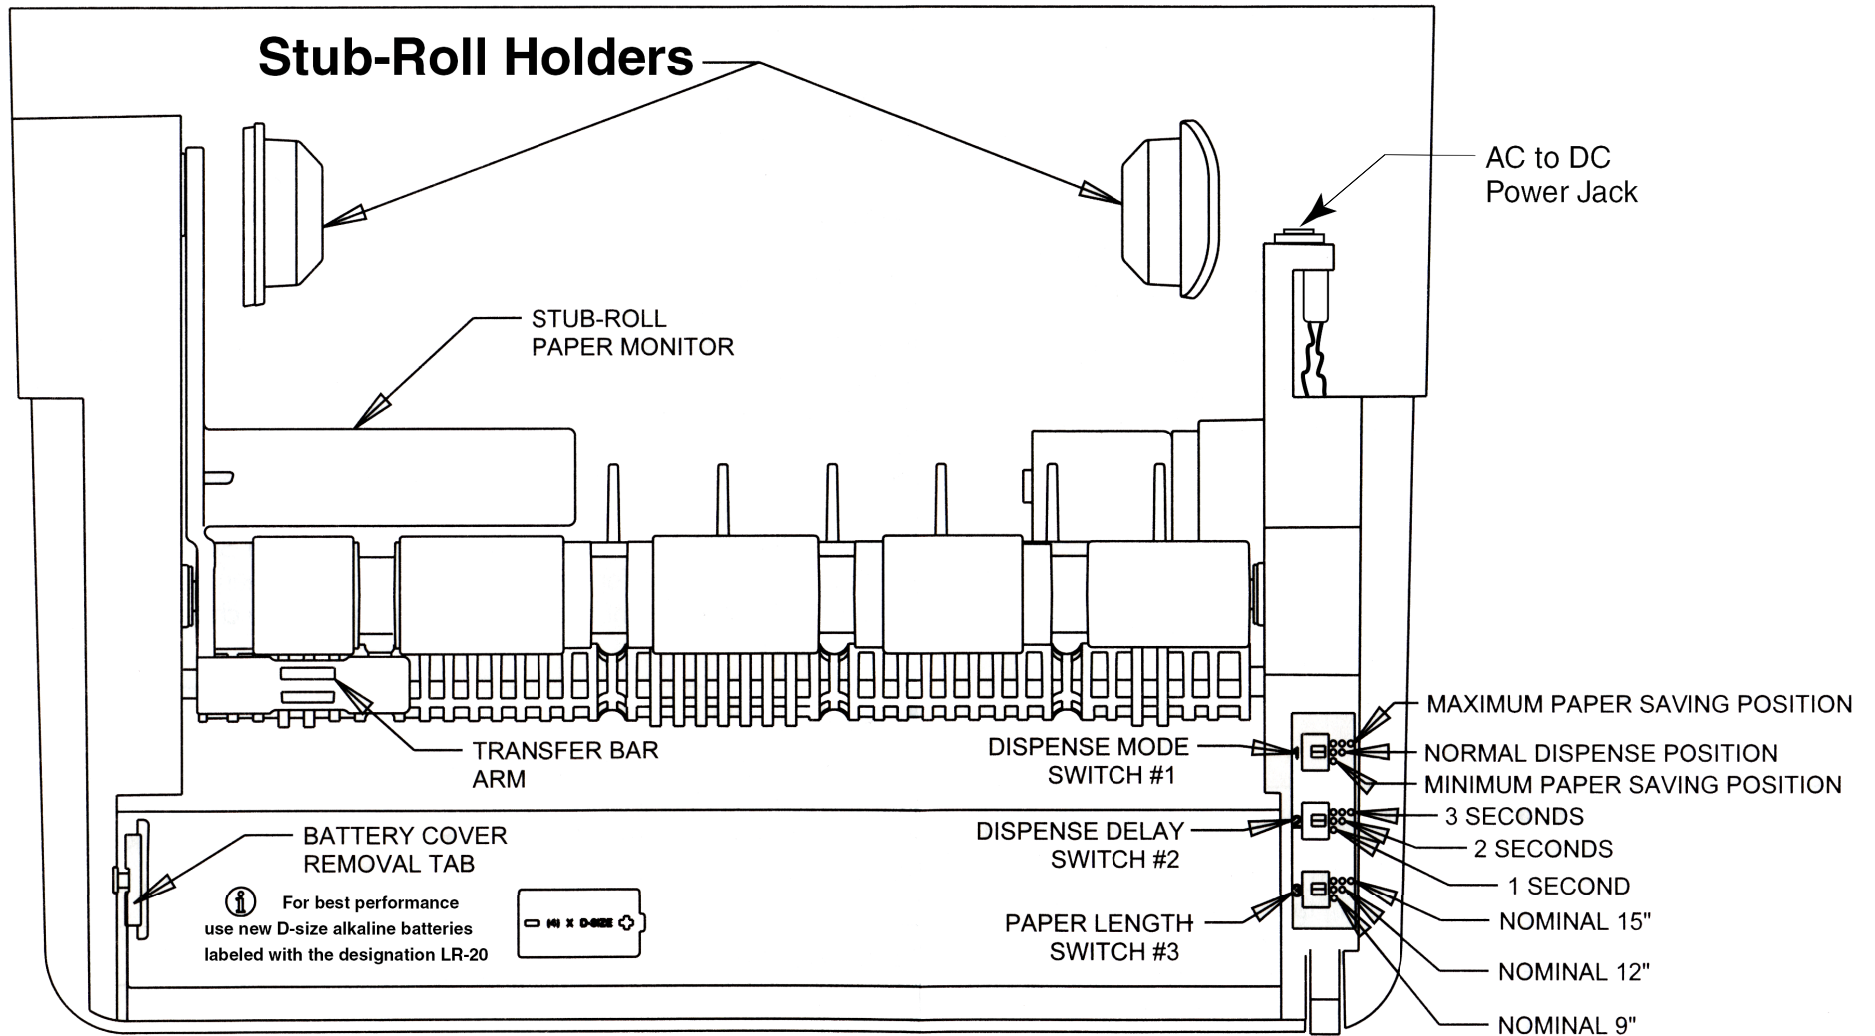

Fig. 1
Open the dispenser cover. The battery compartment is located at the front lip of the dispenser. The cover of the battery compartment is removed by pushing the left hand tab inward and lifting up (See Fig. 1). Insert (4) "D" size alkaline batteries labeled with an "LR20" designation. Other types of batteries are not acceptable. Install batteries as shown on the bottom of battery compartment.
2. Locate the DC jack behind the unit. (See Fig. 1).
There are three, three-position switches available to customize the control system. These switches are behind the cover on the right, inside corner of the dispenser. (See Fig. 1). Switch number 1 allows for one normal and two different Paper Saving dispense modes to be selected. Switch number 2 allows for three different delays between dispense actions. Switch number 3 allows for three different sheet dispense lengths to be chosen. (See Fig. 1) for detail on each switch setting.